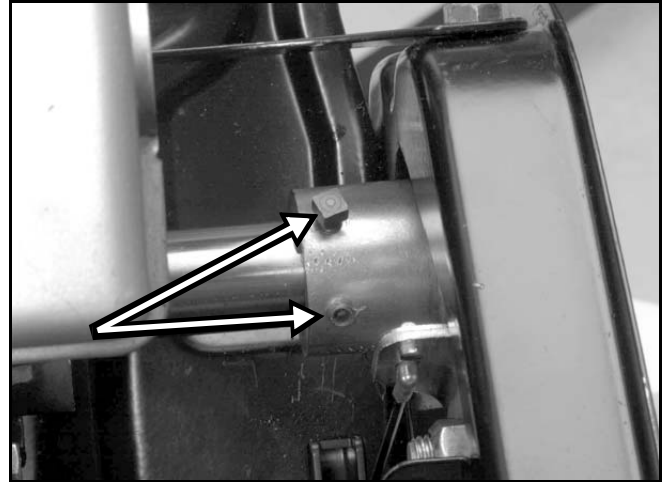

Figure 25
11. Remove the engine pulley. Loosen 2 set screws and pull the pulley straight off (Figure 25).